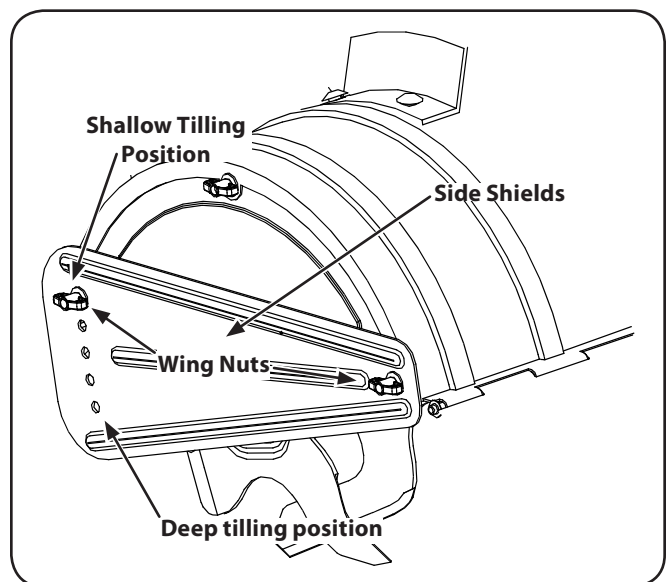

Figure 5-2
4. To adjust the side shields, remove the wing nuts. Move the side shield to the desired position and replace the wing nuts. Tighten securely. See Fig. 5-2.